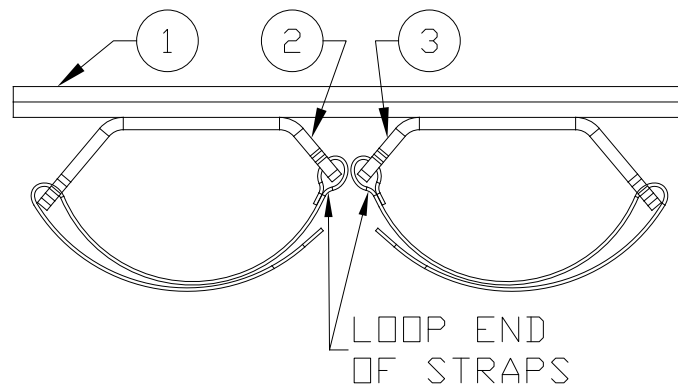

Figure 2
2. Assemble the LH Bracket Straps (2) and the RH Bracket Straps (3) onto the ABC Profile (1) using the fasteners(5&6) shown in Figure 2.
3. Slide the loop end of the Straps (4) onto the LH and RH Bracket Straps. See Figure 2